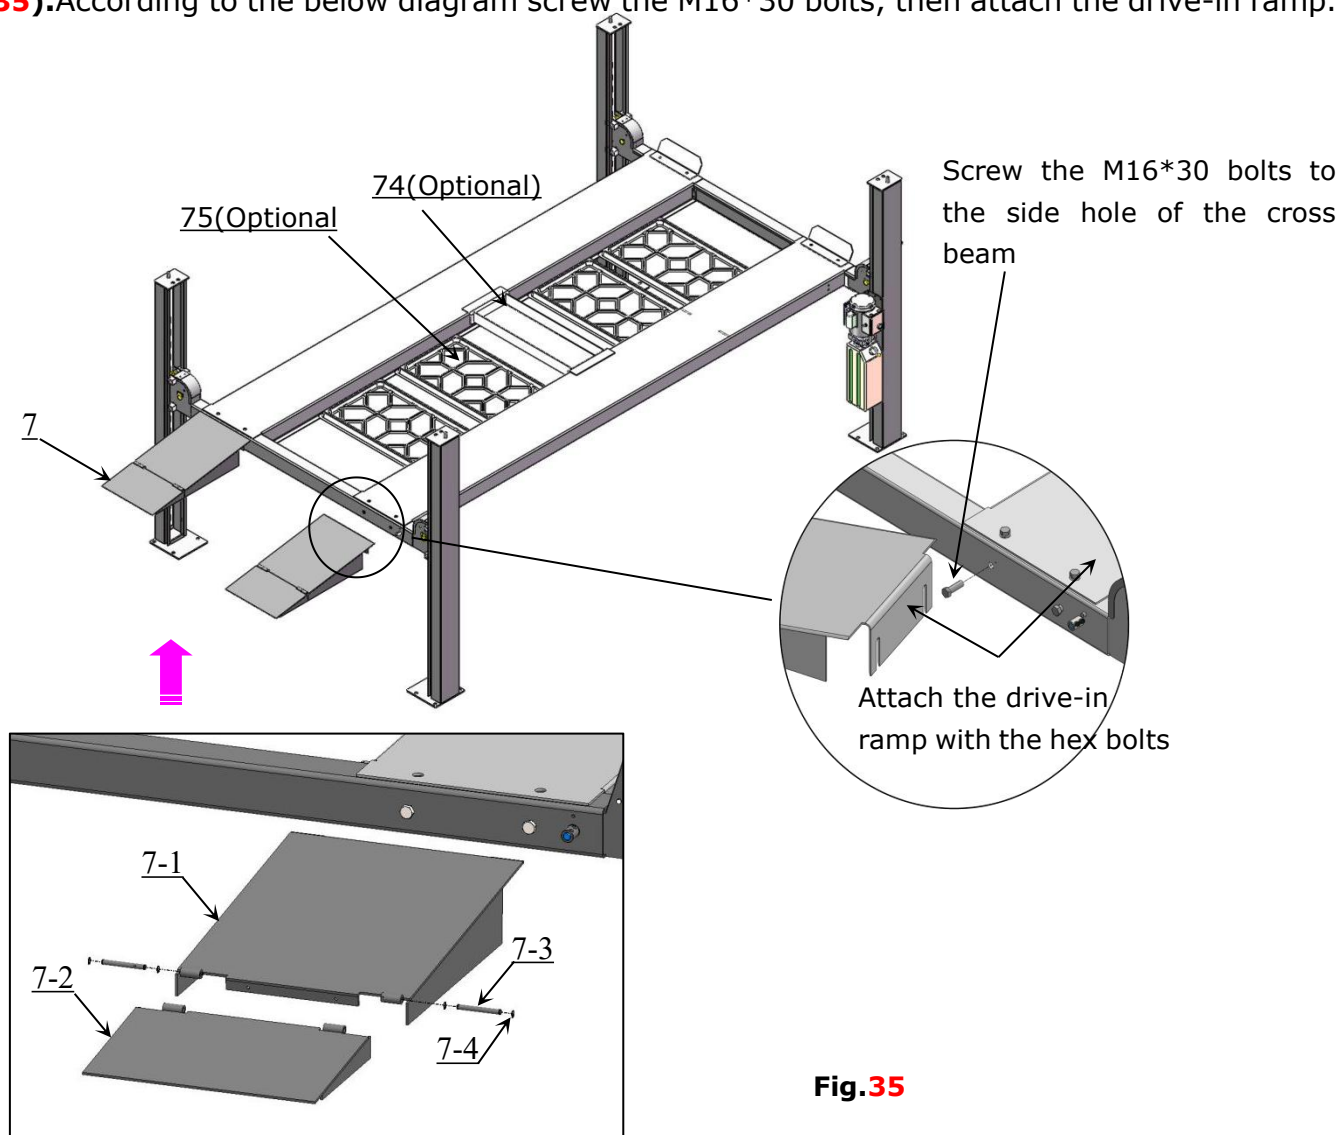

Fig.35
O. Install drive-in ramp, optional jack tray and optional plastic oil pans (See Fig. 35). According to the below diagram screw the M16*30 bolts, then attach the drive-in ramp.